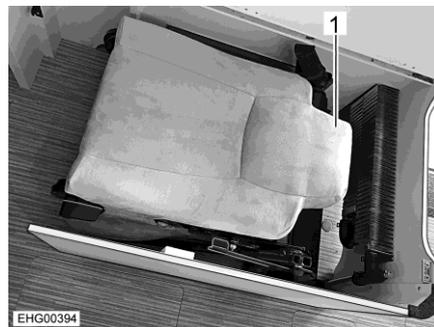
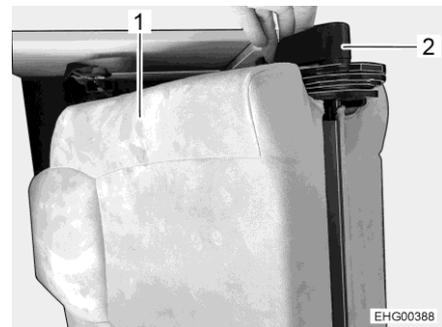

Fig. 21 Additional seat, folded
Fig. 22 Backrest, upper part
- Release the lock (Fig. 22,2) on the backrest.
- Swivel the upper part of the backrest (Fig. 21,1 and Fig. 22,1) upwards.